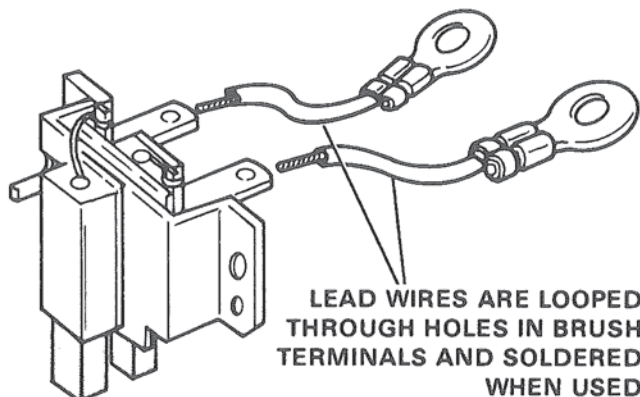

Figure 16. Inspecting Brushes.
1. Inspect brushes. Do not reuse if cracked, broken or worn to less than 3/16 in. Figure 16.